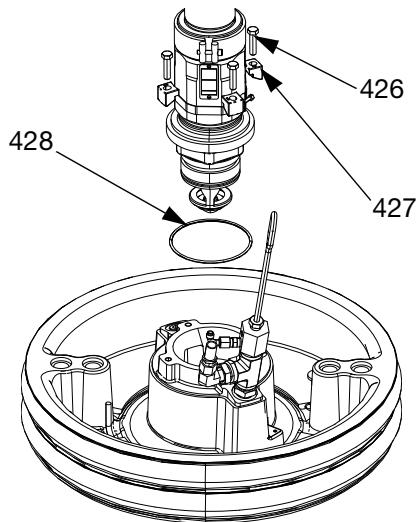

FIG. 35: 55 Gallon Mounting Kit
1. Place o-ring (428) from mounting kit on the Platen (AD). If attached to plate, place Displacement Pump (AC) onto Platen (AD). See FIG. 35.
2. Secure Pump's intake flange to plate with screws (426), washers (425), and clamps (427) included in mounting kit 255392.